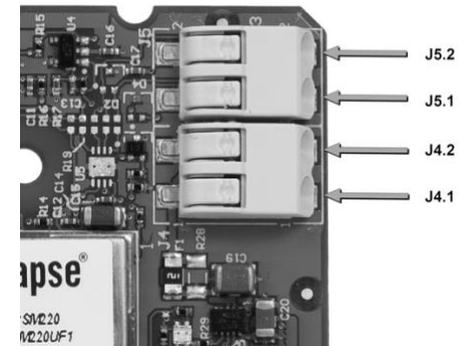
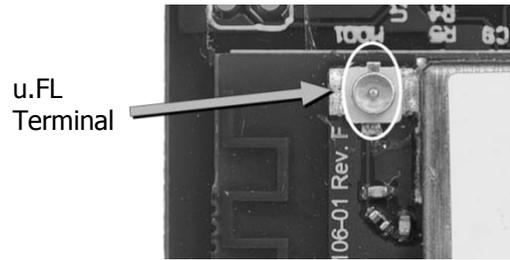

Figure 2 - Terminal Block PINS
Figure 3- u.FL Terminal
2. Connect the 5-24VDC Aux output from LED driver to terminal block pin J4.1 on the DIM10-087-00. (See Figure 2 to better identify terminal block pins.)
- Attach the 50 OHM Terminator to the RP-SMA bulkhead hand tight before attaching the u.FL cable (Figure 3) to the u.FL Terminal (Figure 2). Keep the 50 OHM Terminator on the cable until mounting the bulkhead in the fixture or attaching an antenna for testing.